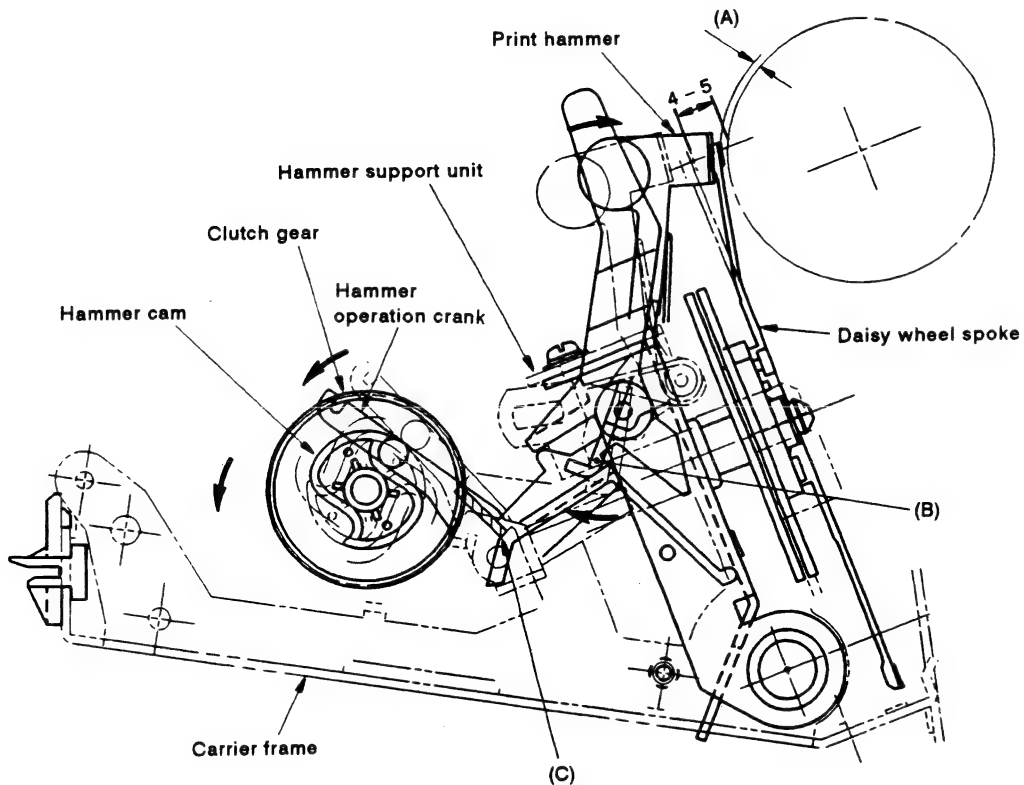

Fig. 9.4
In this case, correct the gap by bending part (C) of the wheel motor support to adjust its longitudinal position (See Fig. 9.4). Then recheck the printing.